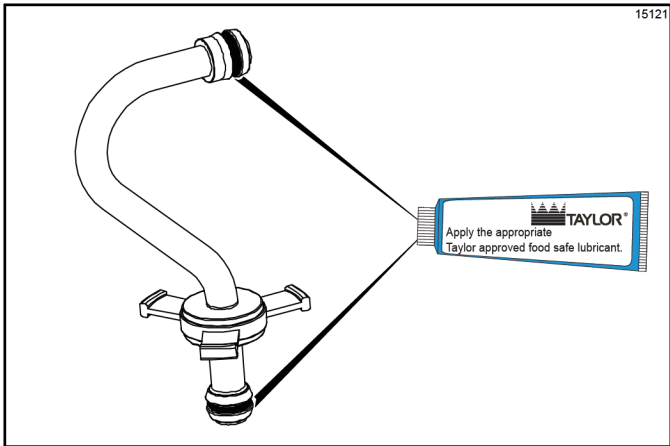

Figure 6-38
- 11. Install one red O-ring on each end of the mix feed tube, and thoroughly lubricate them. (See Figure 6-38.)